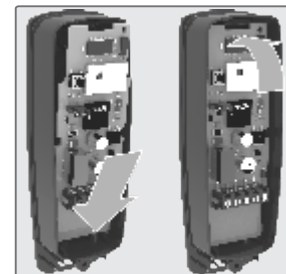

Figure 5.
- Tuck the base of the PCB into the ribs situated at the base of the plastic enclosure. Thereafter swing the PCB into place so that the top lever prevents it from falling out. There should be an audible "click" to lock the PCB in position. Refer to figure 5.